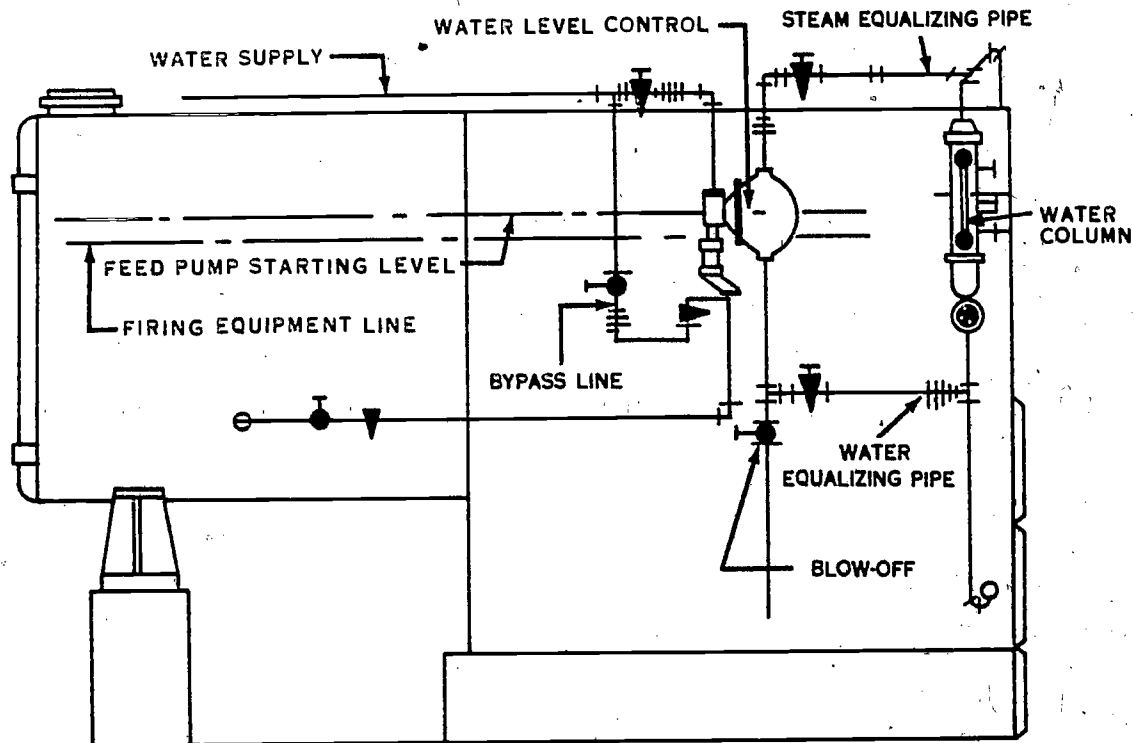

Figure 1. A typical water-level control installation.
2. The simplest method of feeding water into a boiler is that of using the pressure in the water-main system. This can be done either manually or automatically. Most military steam boiler plants have automatic devices for controlling both the boiler water level in the boiler and the feeding of water into the boiler. The position of the control and its relationship to the water level for the system is shown in figure 1. Boilers having 500 square feet of heating surface or more, as well as all high pressure boilers (those operating at above 15 psig are considered high pressure), must have at least two different ways of providing feed water. These ways consist of various combinations using steam pumps, electric-driven pumps, water-main pressure, and injectors.
5. When the pump cannot pump sufficient water into the boiler because of excess load or other reasons and the water level continues to drop, the float reaches another predetermined point and another set of electrical contacts closes the circuit to set off an alarm bell. Still another set of contacts opens to break a different circuit, thus stopping the operation of the fuel-burning equipment. A typical feed-water piping arrangement is shown in figure 1.